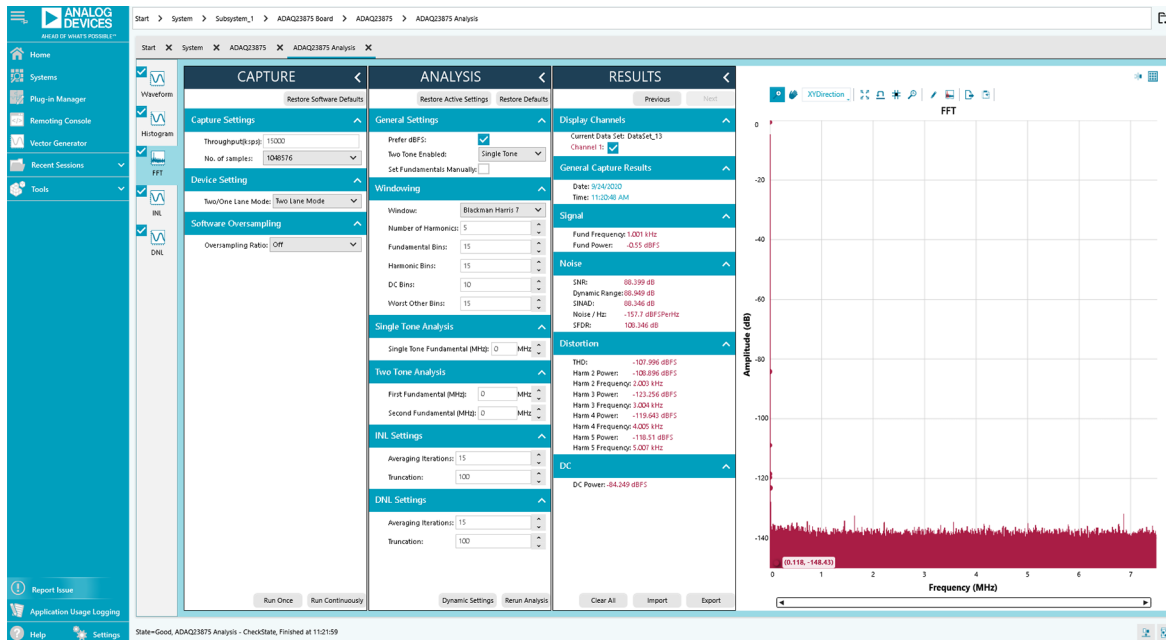
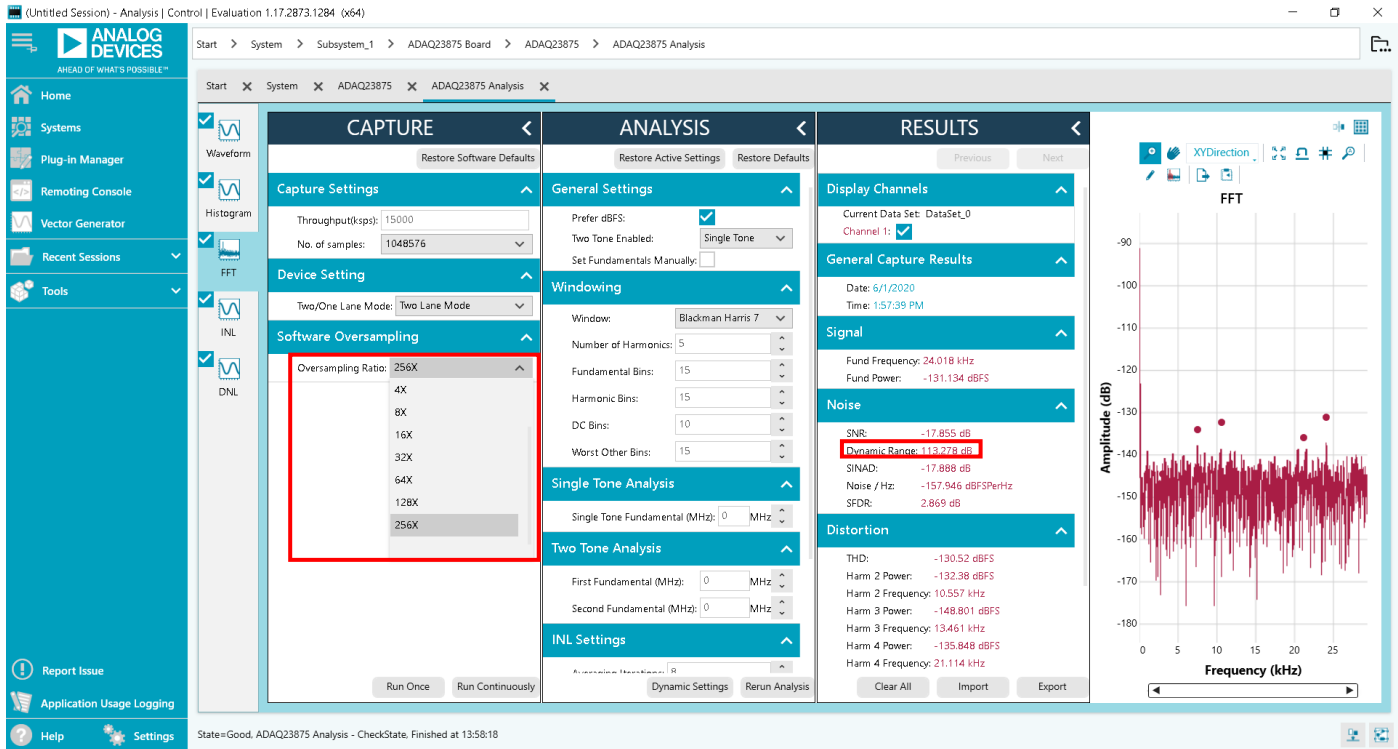

Figure 15. EVAL-ADAQ23875FMCZ FFT
Figure 18. EVAL-ADAQ23875FMCZ FFT with an Oversampling Rate (OSR) of 256X, Inputs Shorted
The **FFT** tab displays FFT information for the last batch of samples gathered, as shown in Figure 15. The FFT also allows the oversampling function with OSR up to 256 \times , as shown in Figure 18. As a general rule, oversampling by a factor of four provides one additional bit of resolution, or a 6 dB increase in dynamic range (DR) of the ADAQ23875. In other words,